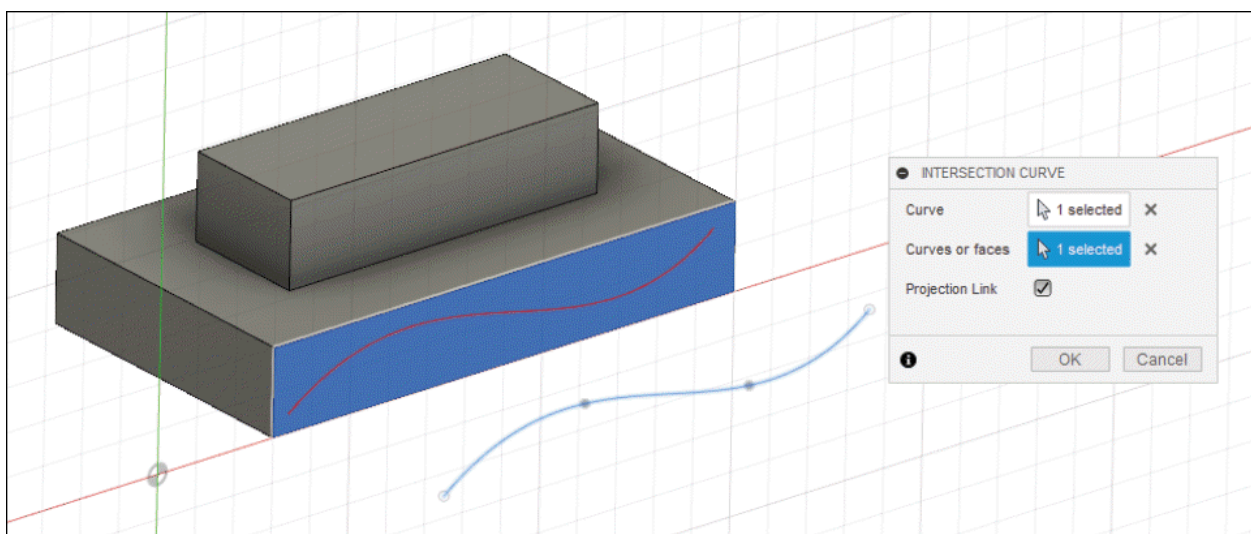

Figure-157. Preview of intersection curve
- Select the curve that you want to be projected and then select the faces/surfaces on which curve is to be projected. Preview of intersection curve will be displayed; refer to Figure-157.